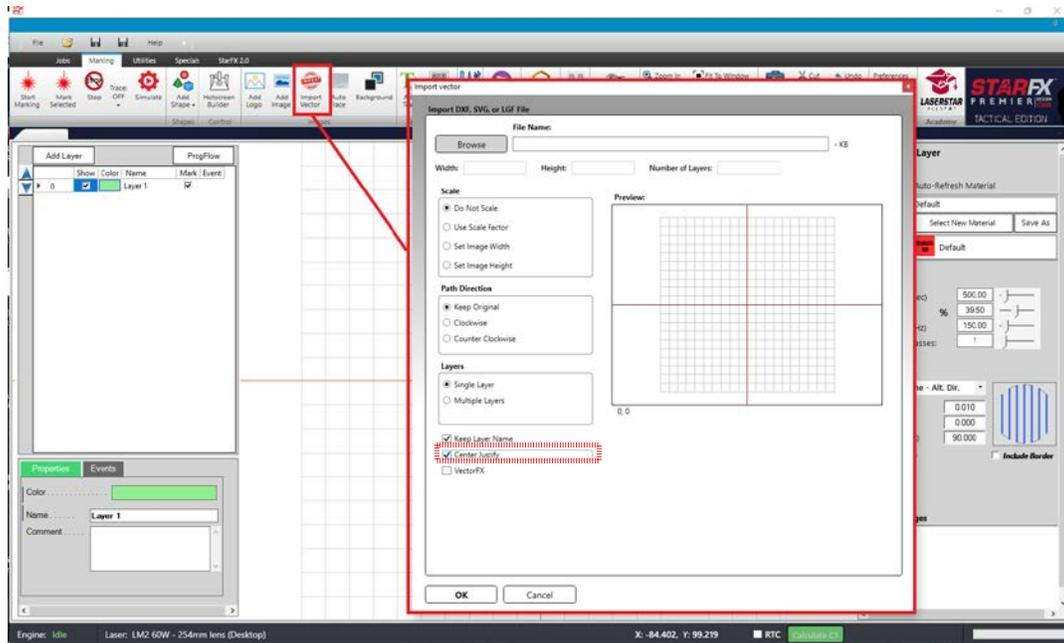

Figure 23
5. On the main screen, select the shape, then select Center Justify on the Main Ribbon to force the crosshair to the center of the screen. **(Note: This can be done during import as well, as shown in the hashed box on Figure 23.)**